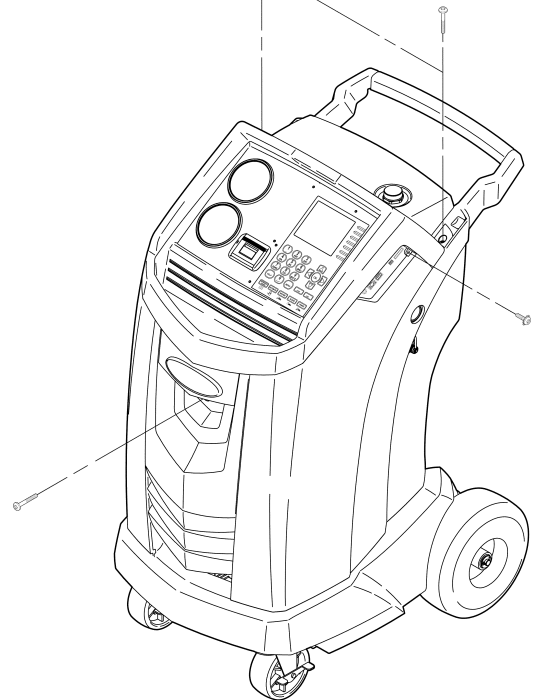

Figure 12
2. Remove the oil bottle, and remove the four screws holding the shroud. See Figure 12. Hang the shroud on the back of the machine.